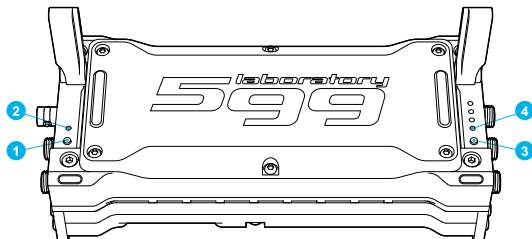

Fig. 1
1. To turn on the battery pack, press and hold the power button (1, Fig. 1) for 1-2 seconds until the power indicator (2) lights up.
2. The battery pack will automatically turn off after 10 seconds of inactivity, and power indicator (2, Fig. 1) will turn off.
To check the battery level, press the button (3, Fig. 1), the four-segment display (4) will show the charge level corresponding to in percent: 25, 50, 75, 100%.